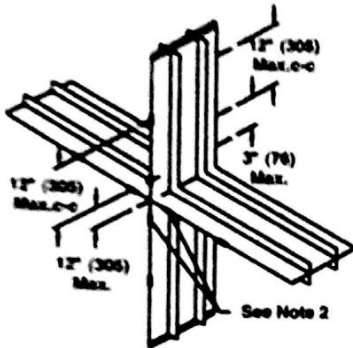

FIGURE 3
Use No. 10 (M5) bolts or screws, $3/16$ " (5) rivets, tack welds or spot welds as depicted in figures 3 and 4 and spaced as follows when joining individual dampers to make multiple section damper assemblies or when fastening damper to the sleeve: